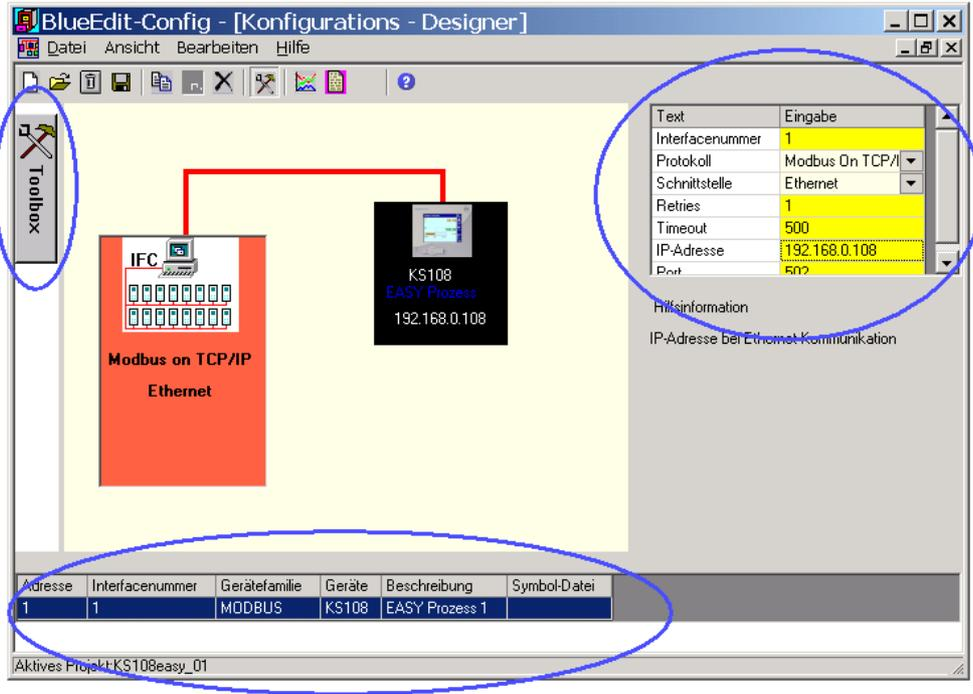

Fig. 17: Overview of the configurator
- Interface and communication parameters (see Fig. 17: Overview of the configurator)